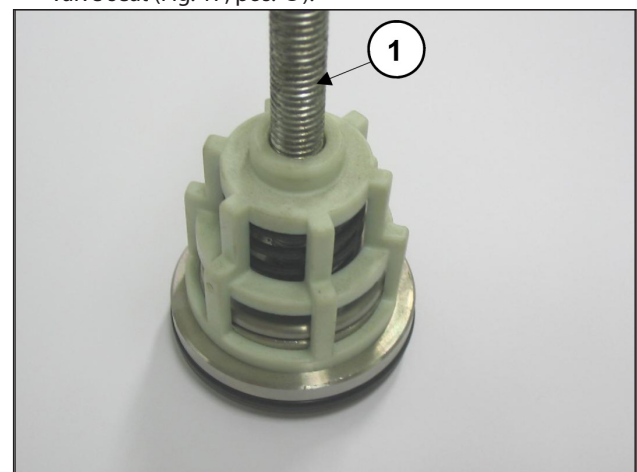

Fig. 17
- Disassemble the suction and outlet valve units, screwing a sufficiently long M8 screw in such a way as to be able to reach the valve plate and extract the valve guide from the valve seat (Fig. 17, pos. ①).